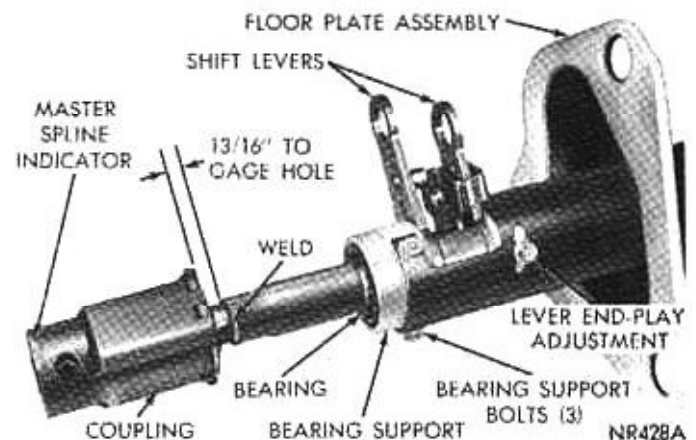

Fig. 34—Shaft Coupling Adjustment
(5) **Center steering shaft coupling at midpoint of its travel.** This is accomplished by moving column and bracket assembly fore and aft in the instrument panel support so dimension between top of coupling and center of gauge hole is $13/16$ inch (Fig. 34). Tighten the two upper bracket nuts to 110 inch-pounds. Attach electrical ground wire to one of the rear mounting studs.
(6) Position floor plate over floor pan opening, centering it around the column, then install and tighten retaining bolts. Slide "O" ring down the jacket and into recess in floor plate, position retaining plate over "O" ring and secure with the two bolts. **Do not pry to align plates and attaching bolts or column misalignment will occur.**
(7) Valiant and Belvedere: place shim pack between column bracket forward leg and instrument panel support. **Maximum shim pack thickness error must not exceed .060 inch before tightening the bolt.** Add shims, if necessary, then tighten bolt to 110 inch-pounds.